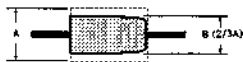

Fig. 4
- (4) Set the SEL switch of the Track Shift Tool to ON. Turn the Track Shift Knob and set the amplitude of the RF waveform to two-third position. (fig. 4)